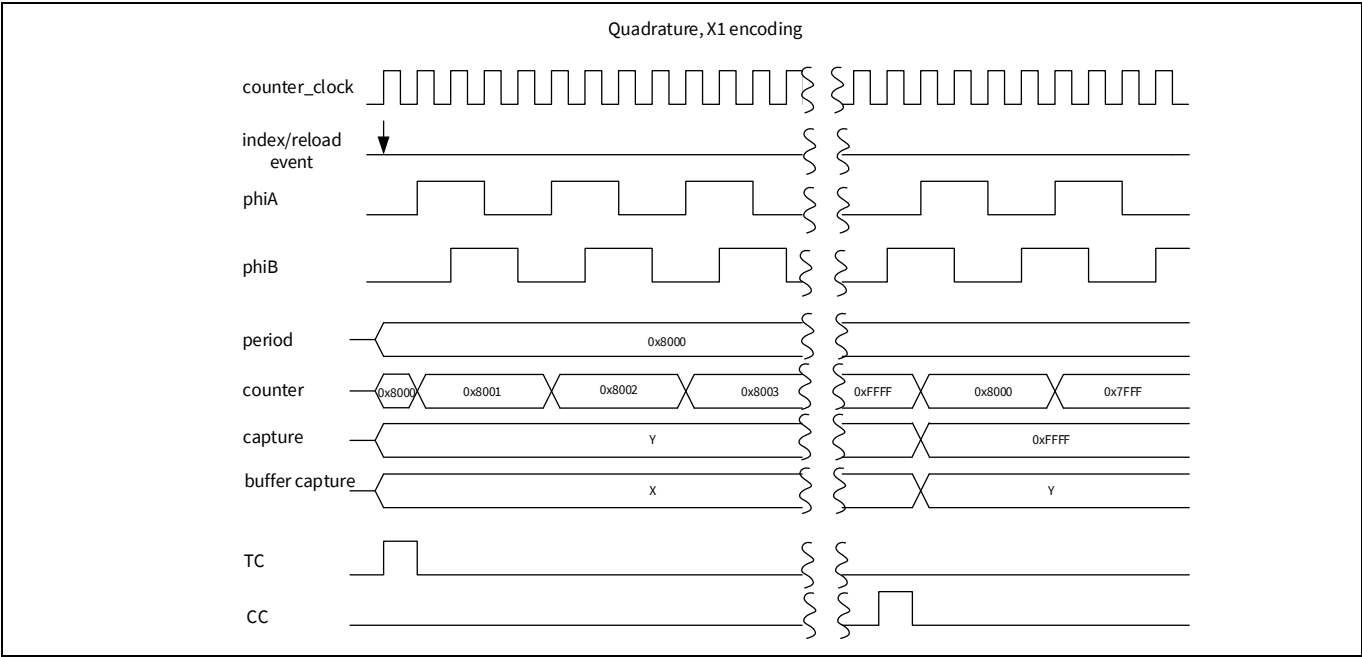

Figure 19-9. Timing diagram for quadrature mode, X1 encoding
- Quadrature index signal: This is connected to the reload signal as a hardware input. This event generates a TC condition, as shown in **Figure 19-9**.
- The DOWN bit field of counter status (TCPWM_CNTx_STATUS) register can be read to determine the current counting direction. Value '0' indicates a previous increment operation and value '1' indicates previous decrement operation. **Figure 19-9** illustrates quadrature behavior in the X1 encoding mode.